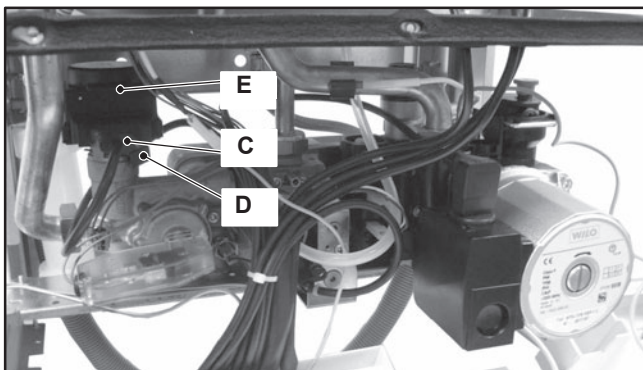

Figure 8.4
- 2 Disconnect the connectors C (Figure 8.4).